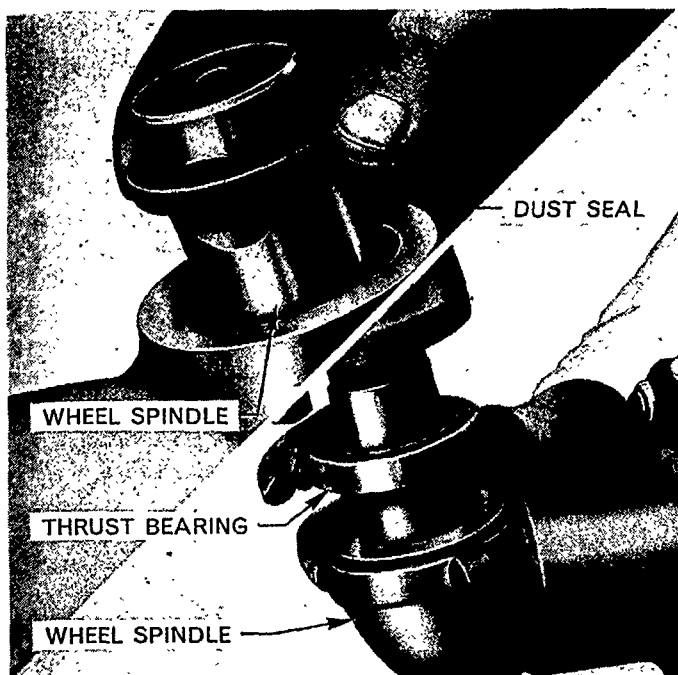

Figure 14
1. Pack the wheel spindle thrust bearing with grease and install on the wheel spindle. Make sure that the shroud is to the top, this is indicated on the bearing by the manufacturer's reference stamped on this face and in some instances the word 'Top', Figure 14.
3. Install a new wheel spindle dust seal, Figure 14.